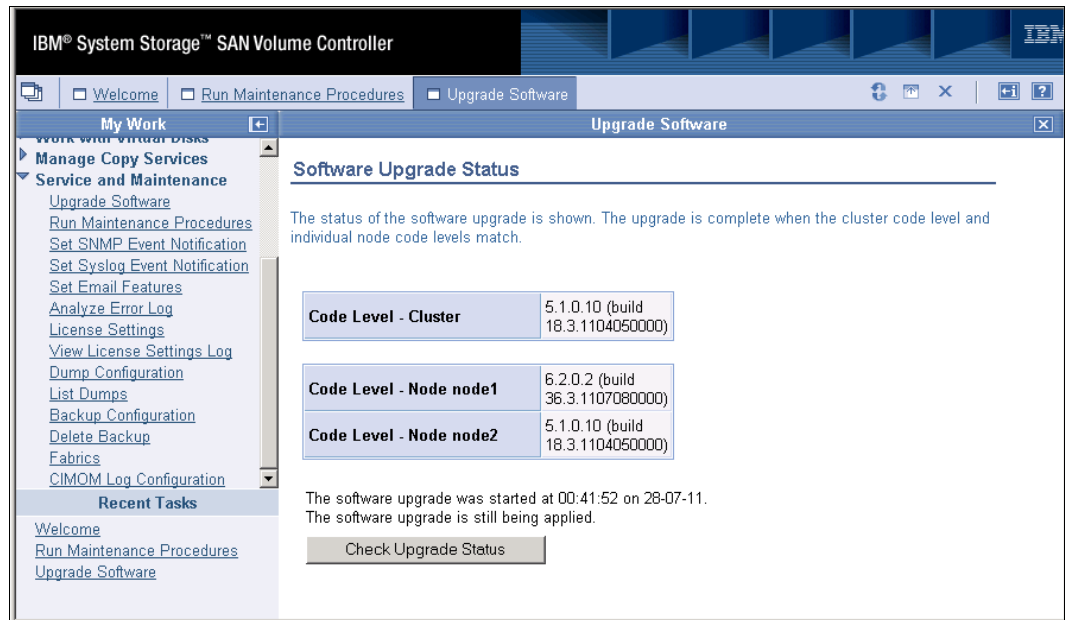

Figure 16-3 First SAN Volume Controller node being upgraded
11. In the Software Upgrade Status window (see Figure 16-3), click **Check Upgrade Status** to monitor the upgrade progress. You notice the GUI changing its shape.